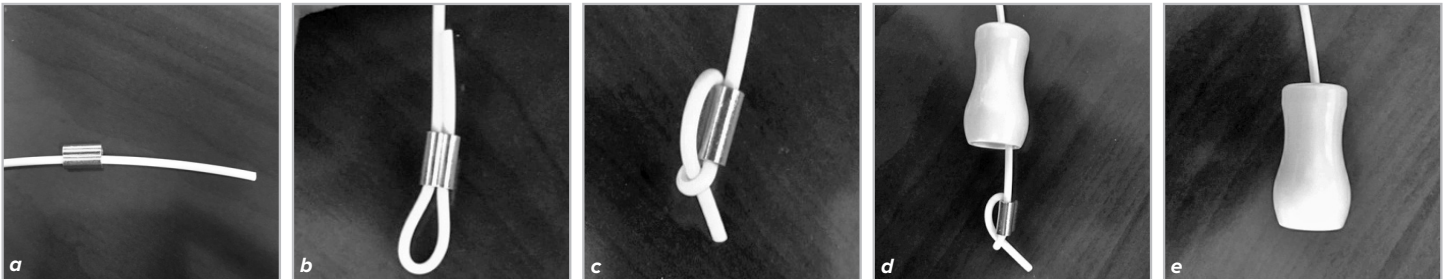
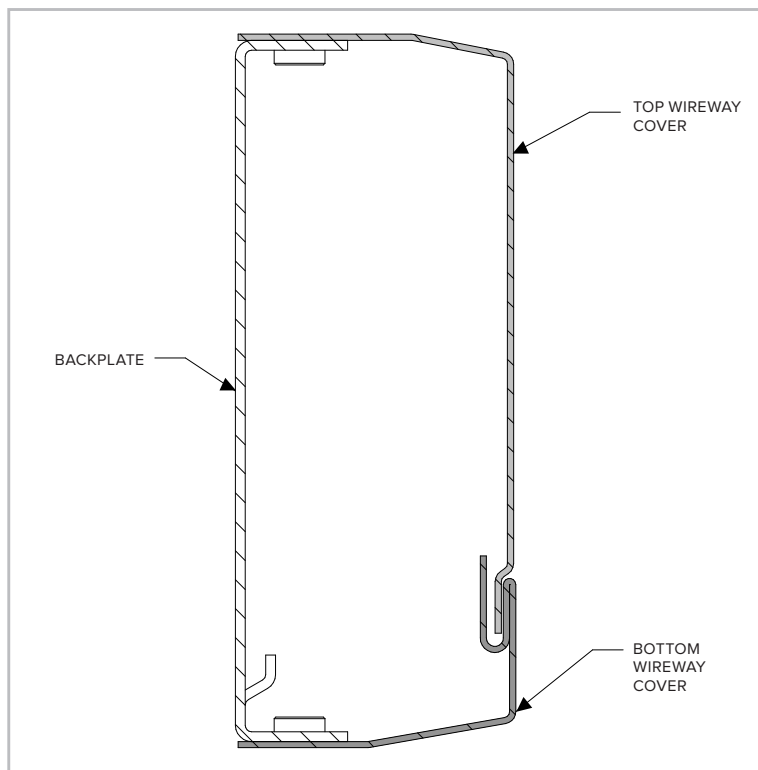

Figure 7: The antimicrobial plastic extension cord is assembled.
Figure 8: Remedi's two piece wireway cover allows for access to the fixture's components with minimal disassembly.
2. Reinstall the two-piece wireway covers with the 6 flat head screws. When reinstalling the wireway covers, ensure that no wires are pinched. Start by installing the lower portion of the cover. If a pull chain is present, attach the plastic extension cord to the chain and feed through the bushing in the lower wireway cover. After the lower portion of the cover has been installed, follow the steps shown in **Figure 7** to attach the pendant to the pull cord. Install the top portion of the cover, making sure to insert it into the lower portion as shown in the cross section in **Figure 8**.